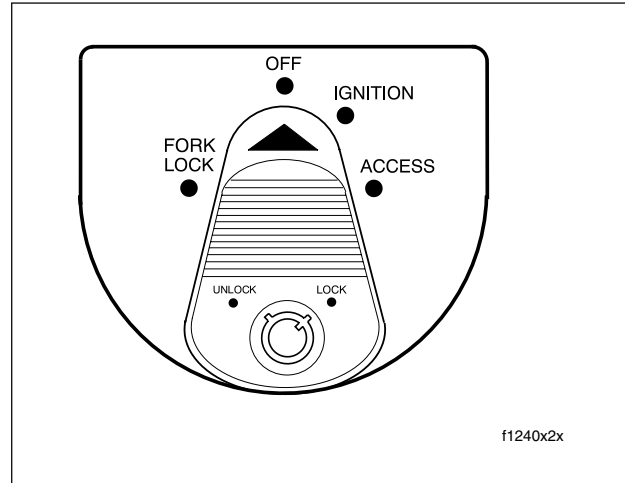

Figure 5-4. Ignition Switch (FLTR, FLHT/C/U)
- See Figure 5-4. "Key ON" means that the ignition key is turned to IGN and the engine stop switch is set to RUN (although the engine is **not** running).